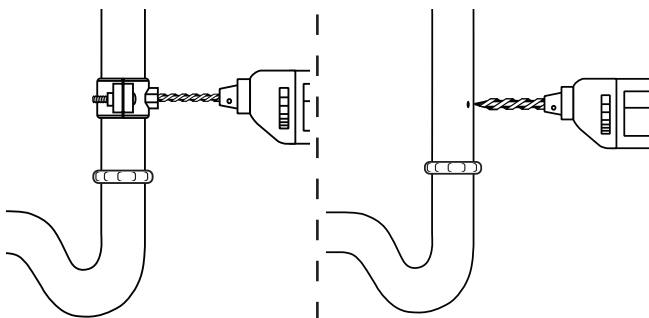

Figure 7
4. Using the fitting hole of the drain clamp as a guide, drill a 1/4" (0.6 cm) hole through one side of the drain pipe. See Figure 7.